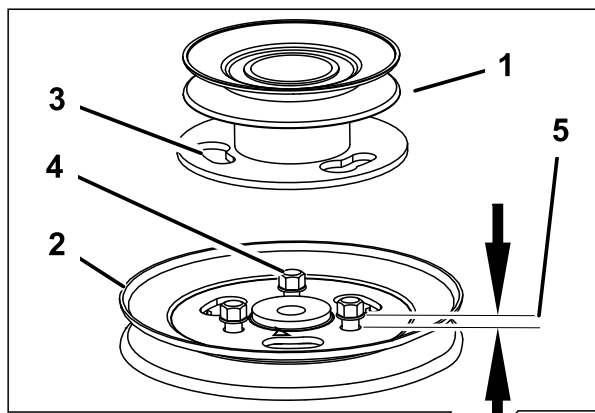

Figure 4
1. Loosen, but do not remove, the tapping bolts on the existing mower-deck pulley (Figure 4).
2. Align the new pulley assembly so that the openings fit over the pulley bolt heads (Figure 4).
3. Turn the pulley to lock it into position (Figure 4).